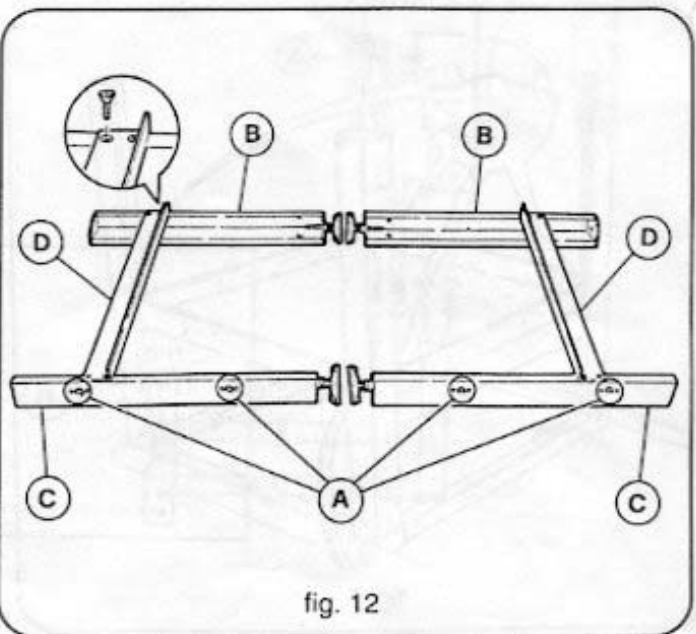

fig. 12
- Remove all parts from the box and position the 4 legs (fig. 12), respecting the position of the 2 legs C fitted with clip-on receptacles A.